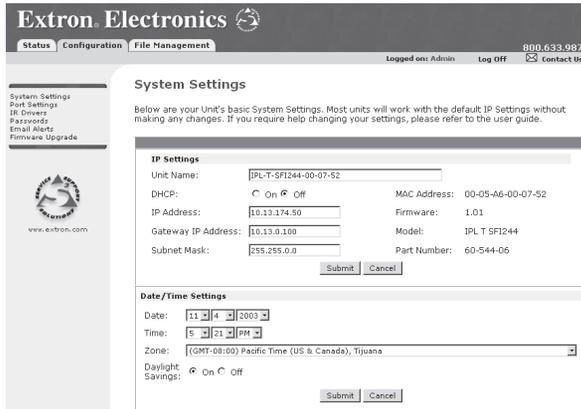

Figure 4-10 — Web server System Settings screen
1. Select the Configuration tab and the System Settings screen (figure 4-10) is displayed.
8. Within the System Settings screen (figure 4-10) place the gateway IP address into the Gateway IP Address field.